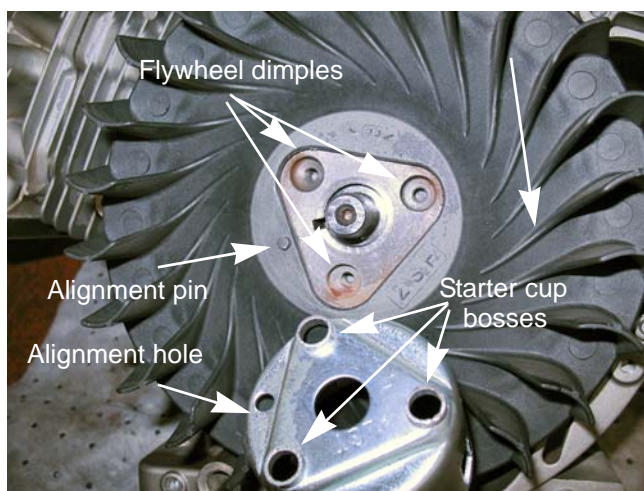

Figure 6.3
- Align the pin on the flywheel fan with the hole in the starter cup. See Figure 6.3.